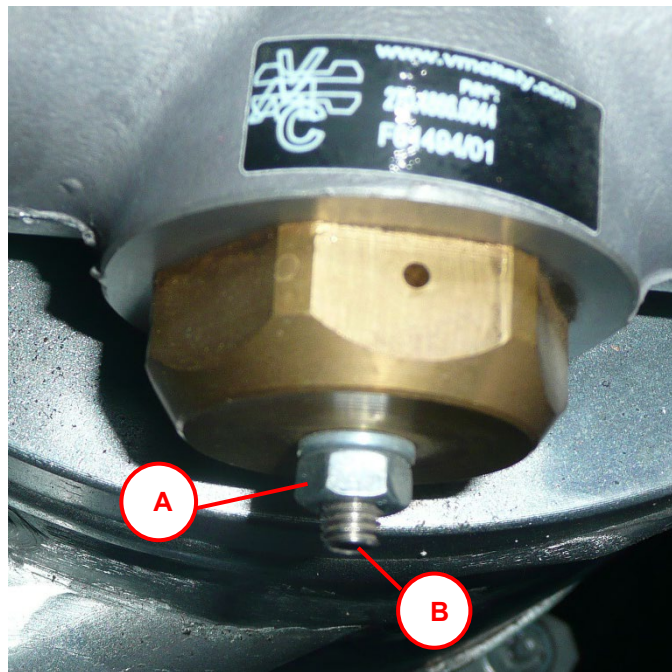

Figure 10.3-1 Adjusting minimum pressure pneumatic circuit
5. Unscrew, with 10 mm wrench, nut (Letter A Figure 10.3-1)
6. If you want to increase the maximum pressure must tighten the Allen screw (Figure 10.3-1 Letter B) with Allen key 3 mm;
7. If you want to reduce the regime min loosen the Allen screw (Figure 10.3-1 Letter B) with Allen key 3 mm;
8. Once the adjustment screw, with a 10 mm wrench, nut (Letter A Figure 10.3-1) and close the exit valve;